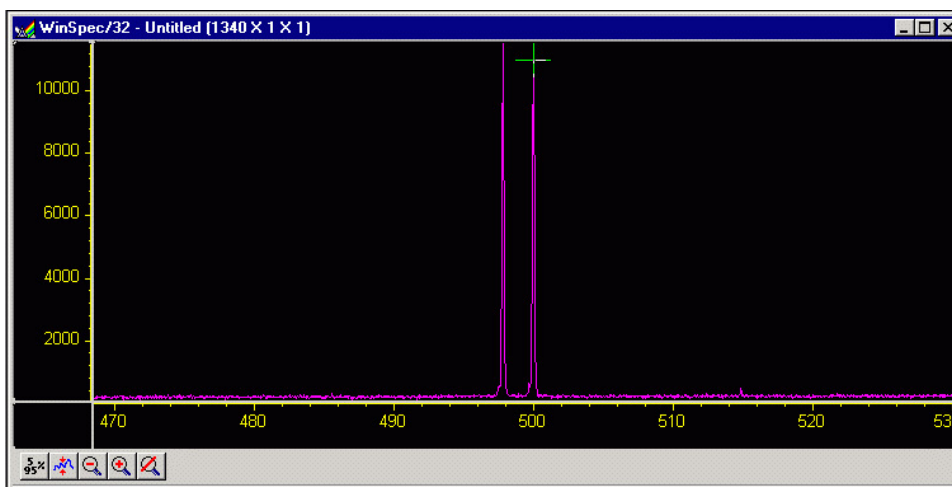

Figure 70. Calibration Adjust Spectrum
4. Figure 70 illustrates a typical Adjust data acquisition. The reference peak should appear near the center of the display and the cursor should be near or on the highest point of the peak.